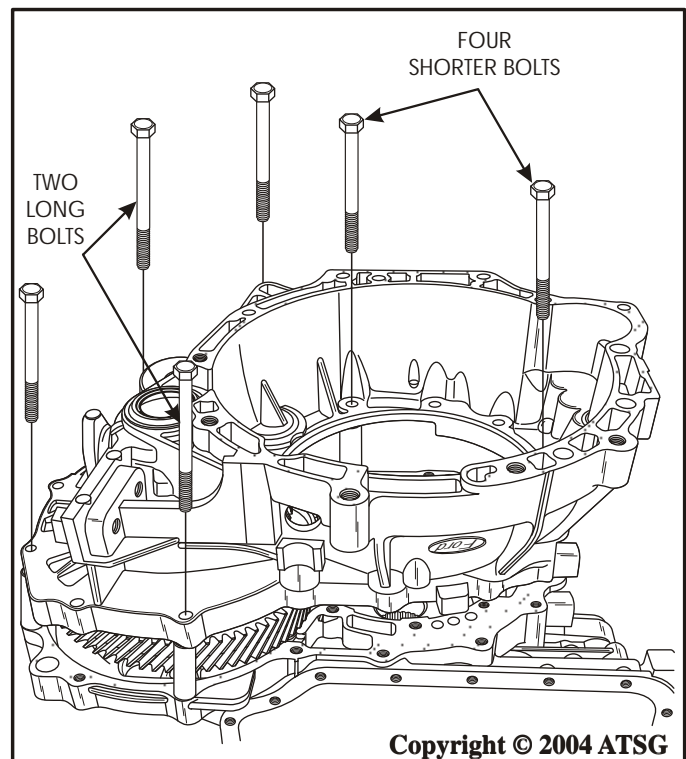

Figure 140
57. Install two long bolts from the Shim Selection Tool Set (308-164) in the positions that are shown in Figure 140.